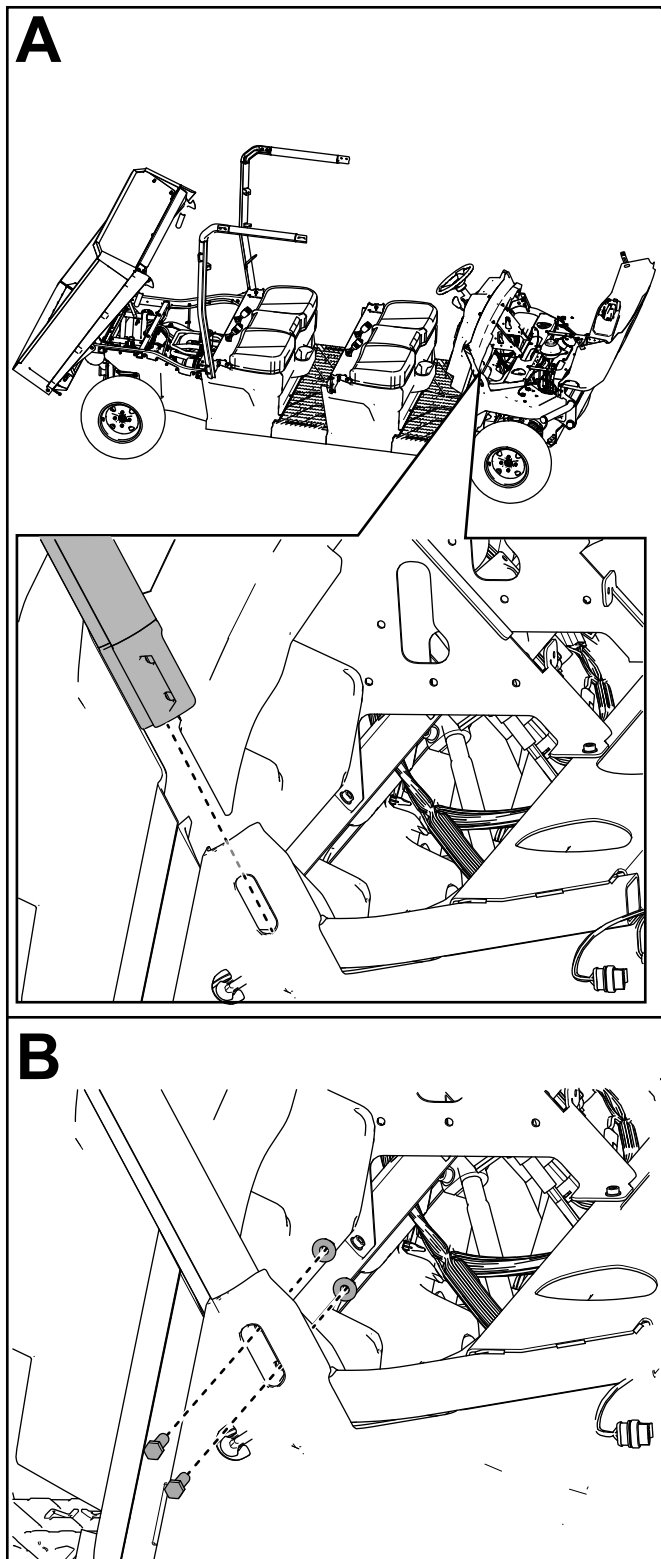

Figure 44
10. Loosely secure the right, front roll bar assembly to the right roll bar mount bracket using 2 hex-head bolts ($3/8 \times 1\text{-}1/4$ inches) and 2 locknuts ($3/8$ inch) as shown in Figure 44.